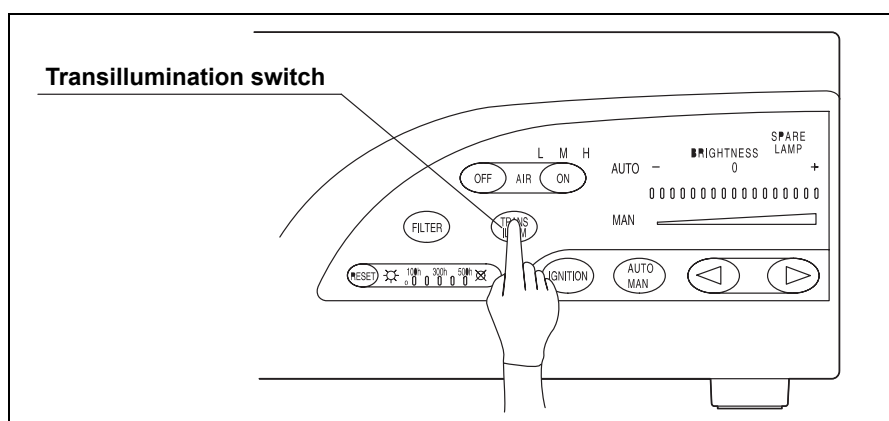

Figure 5.6
1. Press the transillumination switch. The brightness adjustment automatically changes to maximum for manual brightness control (see Figure 5.6).